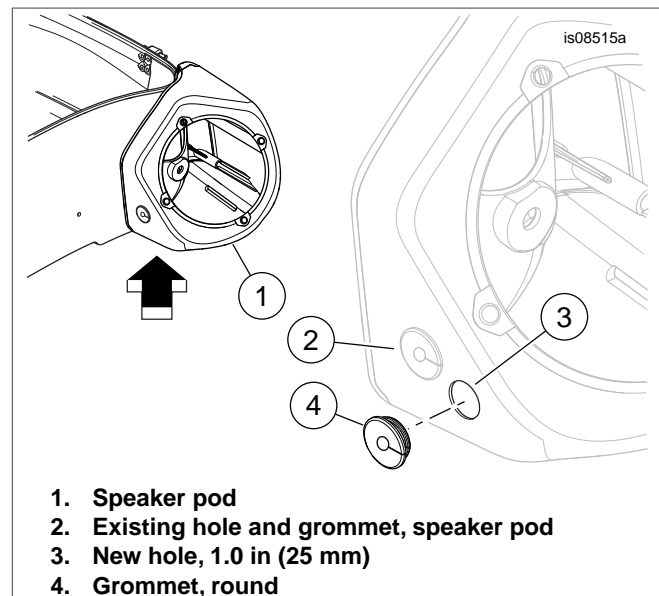

Figure 1. Grommet Installation
4. See Figure 1. Drill a **new** 1.0 in (25.4 mm) hole (3) in each speaker pod (1), away from the existing grommet (2), approximately where shown.